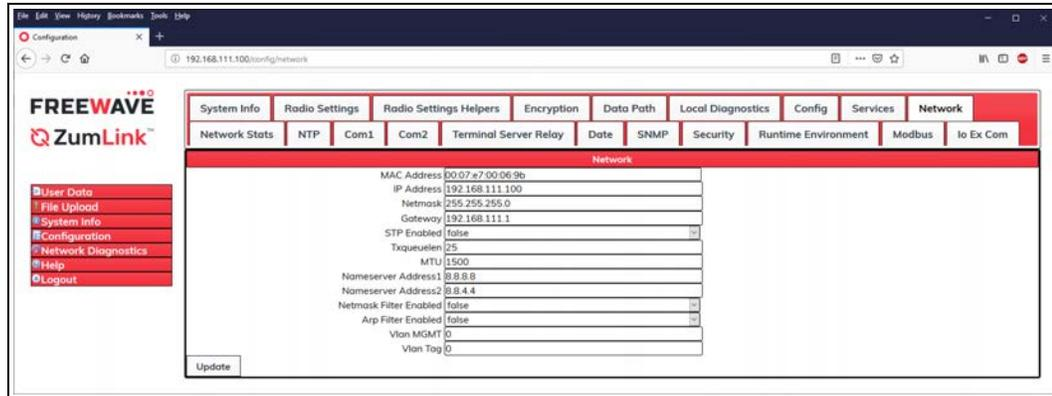

Figure 145: Network window
6. Click the **Network** tab to access the **Network** parameters. Figure 145